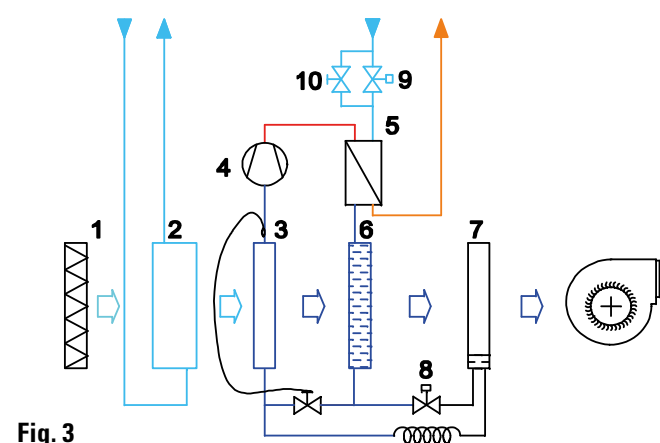
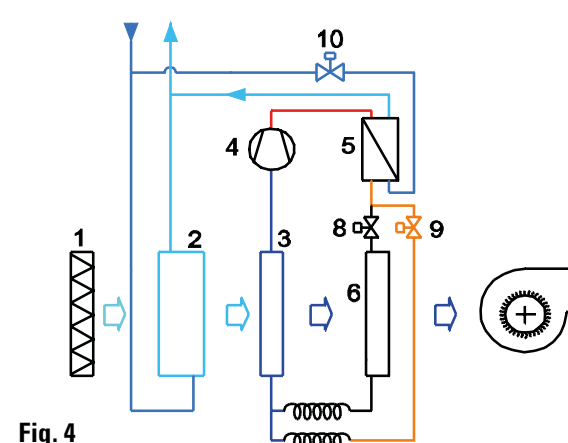

Fig. 3
Fig. 4
Il funzionamento in integrazione è schematizzato in fig. 3 e 4. Il funzionamento in integrazione è possibile solo con alimentazione di acqua refrigerata.
The integration operation layout is shown in figure 3 and 4. Operating in integration mode is only possible with a supply of cooled water.
In Fig. 3 l'accumulatore di liquido (7) si svuota e la batteria alettata (6) viene allagata. In Fig. 4 il refrigerante bypassa la batteria alettata (6).
*In integration operation the electrovalve (8) is closed, while (9) and (10) are open.*
*In this way full flow is given to the plate heat exchanger (5).*
*In Fig. 3 the liquid accumulator (7) is emptied and the finned coil exchanger (6) is flooded. In Fig. 4 the refrigerant bypasses the finned coil exchanger (6).*
*In both cases, the plate heat exchanger (5) disposes of all the condensation heat by itself, so the air is not post-heated but remains cooled.*